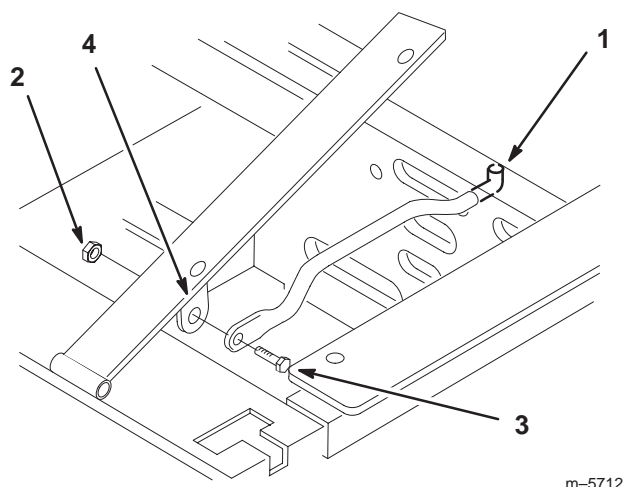

Figure 3
1. Tilt the seat up. Remove the locknut (5/16 inch) from the bolt attaching the seat retaining rod to the seat frame (Fig. 3).
2. Remove the retaining rod from the seat and insert the L shaped end of the rod into the hole directly above the left-side hydraulic pump (Fig. 3).
3. Place the seat retaining rod to the outside of the mounting tab of the seat frame and secure it with the bolt (5/16 x 1 inch) and locknut (5/16 inch) (Fig. 3).